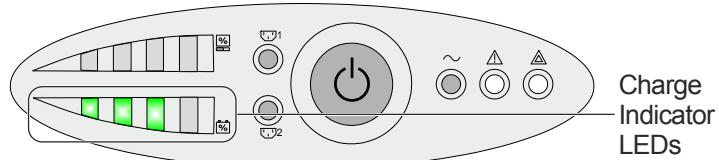

Figure 236 Charge Indicator LEDs on the Front Panel of the 1550 Evolution Battery Backup Unit
1. Verify that the Charge indicator LEDs (on the front panel of the Battery Backup Unit, as shown in Figure 236) are lit (indicating that the Battery Backup Unit is receiving mains power).
Note: To start the cluster, at least one of the Battery Backup Units (in a single X-Brick cluster), or one Battery Backup Unit per X-Brick pair (in a multiple X-Brick cluster) must be charged to not less than 70% of its full capacity (i.e. three lit charge indicator LEDs, as shown in Figure 236).